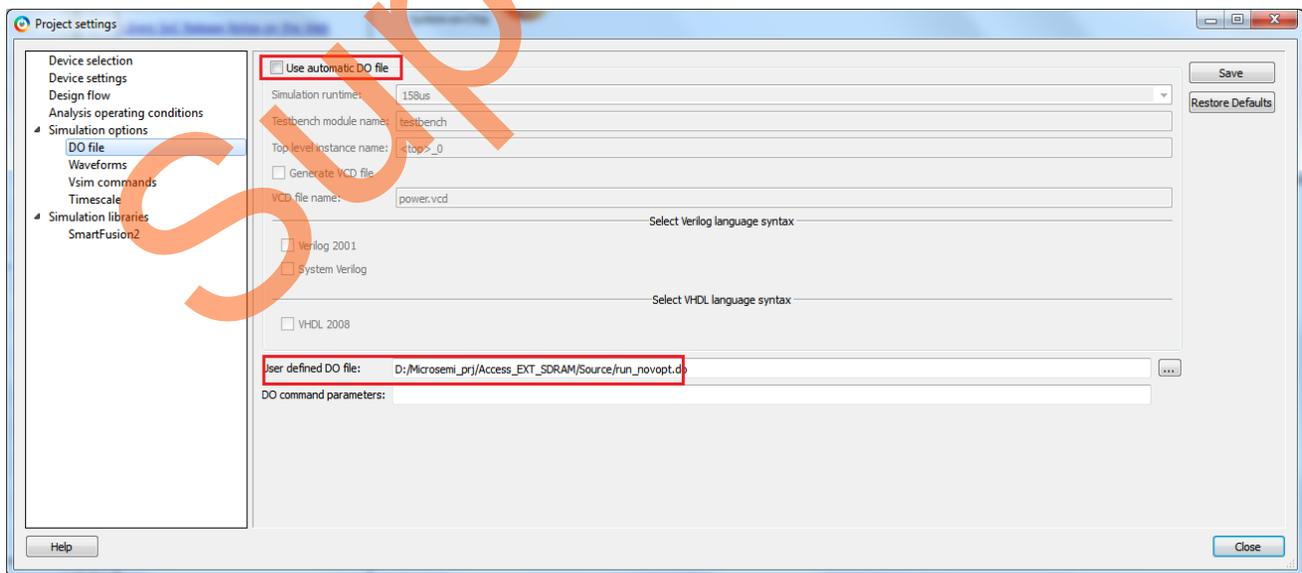

Figure 33. Specifying *run_novopt.do* for VHDL ModelSim Full Version
- A .do file, *run_novopt.do*, which has the switch already set, is provided along with the source files in the tutorial zip files. To use the provided *run_novopt.do* file, clear the **Use automatic DO file** check box and browse to the location of the *run_novopt.do* file, as shown in Figure 33.